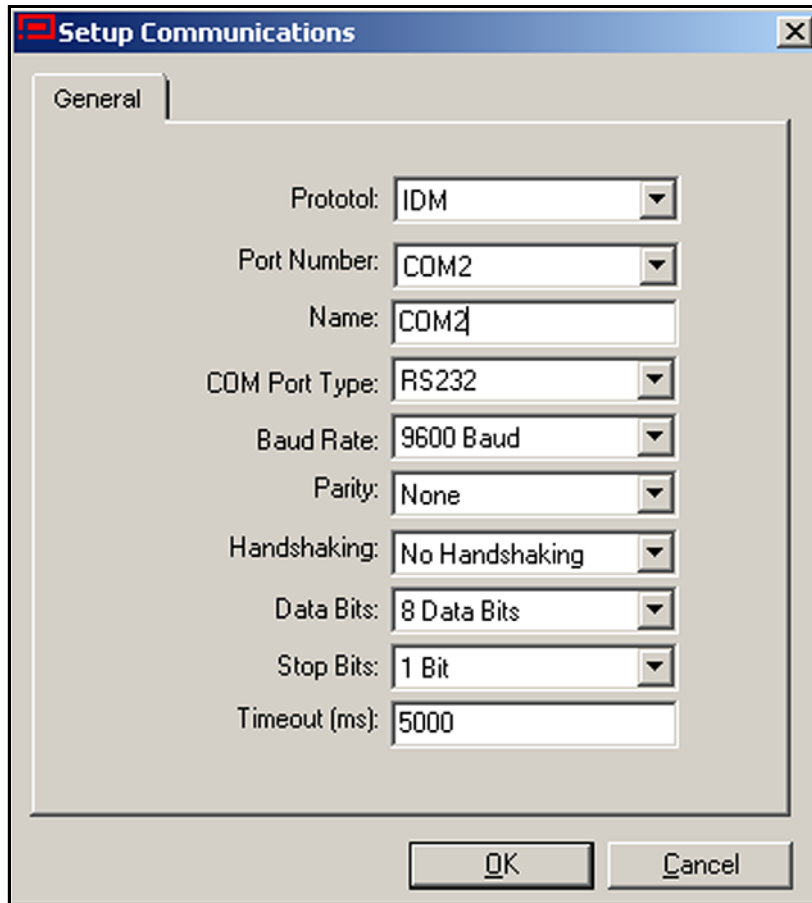

Figure 19: Setup Communications Screen
- Click on the "Communications Port" option to select it. The *Setup Communications* screen appears similar to Figure 19 below.